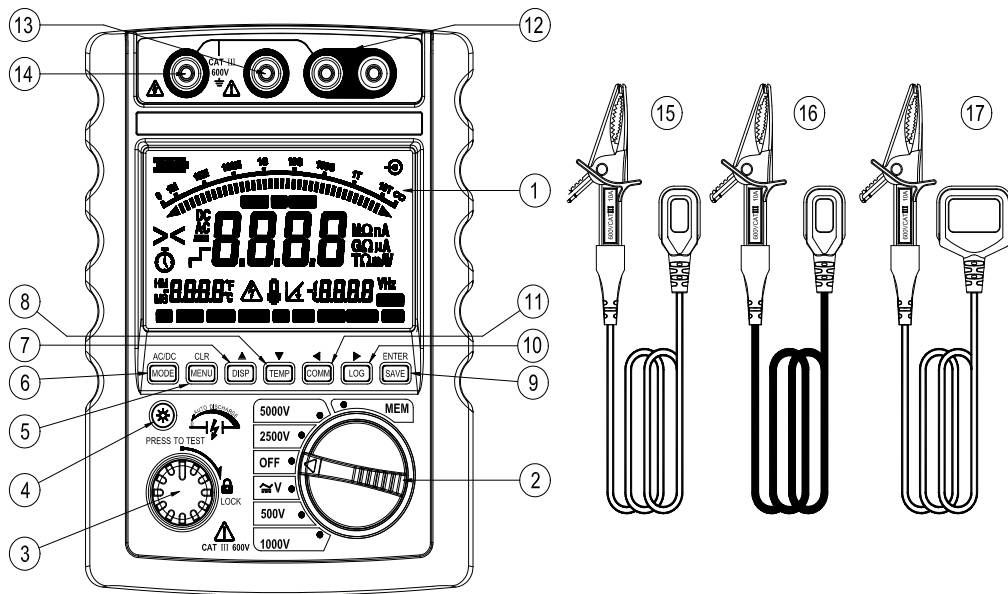

Figure 1
4.1 Instrument elevation (As shown in Figure 1)